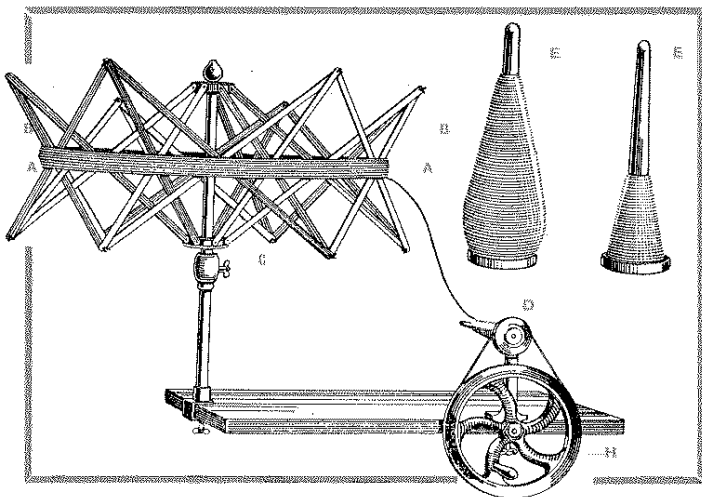

Fig. 10
Fix the winder and swift on to a table in the manner shown (Fig. 10) and the bobbin (D) on to the winder spindle, take the hank of yarn (A) and place it over the swift (B), raise somewhat the barrel (C) so that the yarn will not fall off the swift, but not to bind the yarn tightly. Now piece the yarn to the bobbin (D) and with the right hand turn the wheel (H), and with the left hand guide the yarn. Wind first the lower end of the bobbin cone shaped, and gradually fill it towards the top, taking care to keep the cone shape throughout, so that the upper part of the bobbin may never